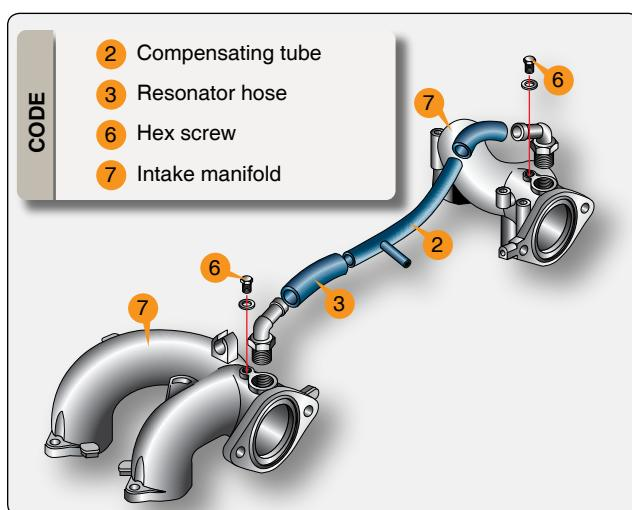
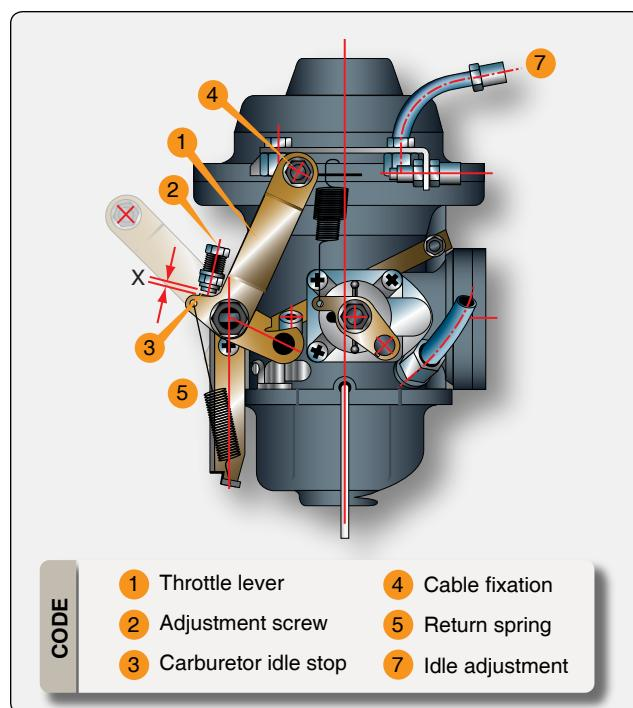
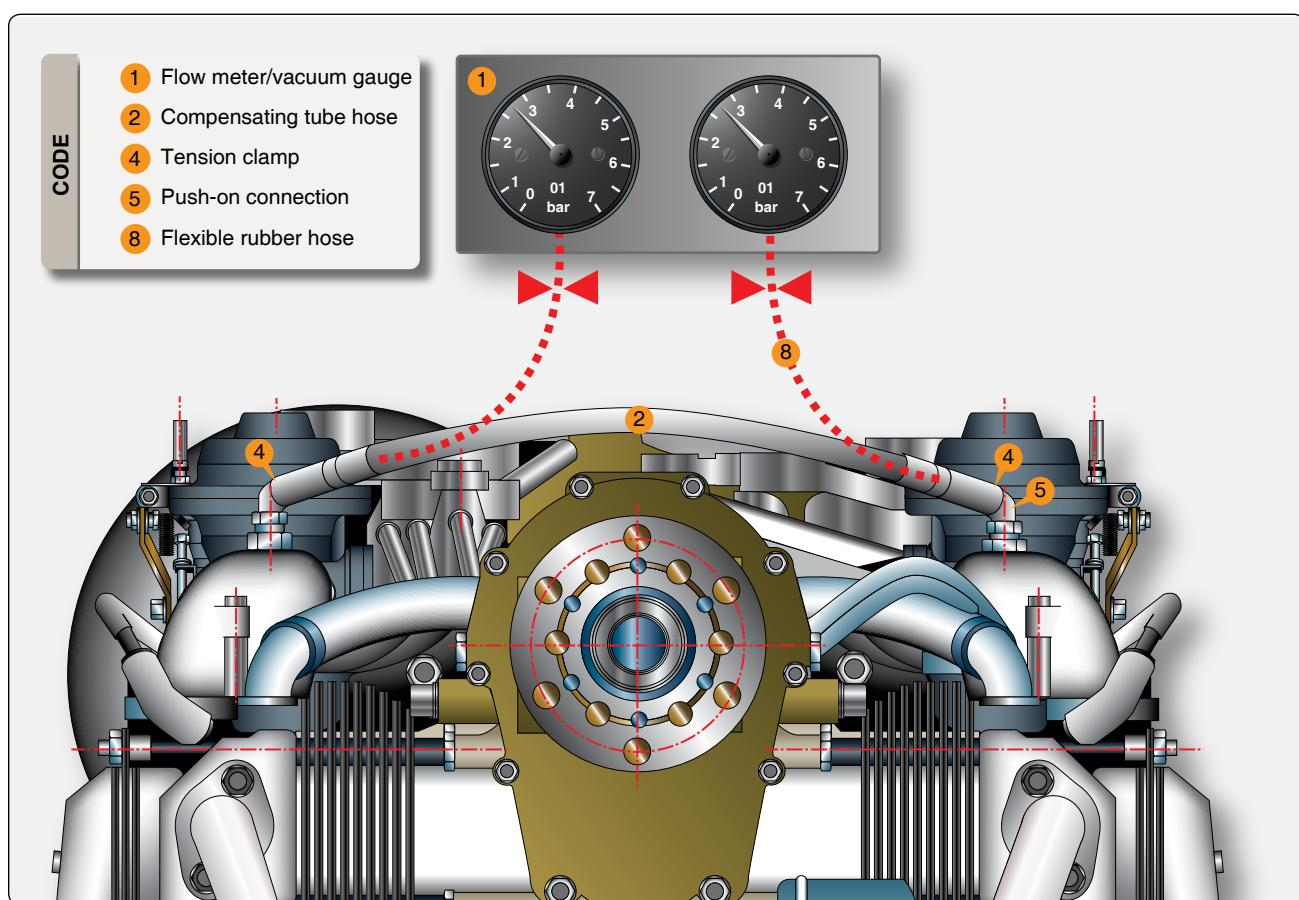

Figure 11-26. Resonator hose and compensating tube.
Figure 11-27. Carburetor throttle lever.
Figure 11-29. Gauges attached to the engine.
For smooth idling, synchronization of the throttle valves is necessary. When synchronizing, slacken both Bowden cables, and detach the resonator hose (3) of the compensating tube (2) to separate the two air intake systems. [Figure 11-26] In this condition, no significant difference in the engine running should be noticeable. If adjustment is needed for synchronous basic throttle adjustments (mechanical synchronization), proceed as follows. [Figures 11-27 and 11-28]
There are two possible methods to connect test equipment. One option is to remove the hex screw (6) M6 x 6 from the intake manifold (7) and connect the vacuum gauge(s). [Figure 11-26 and Figure 11-29] Remove the compensating tube (2) with attached hoses (12) (connection between intake manifolds) and plug the connections in the intake manifolds. The other hook up option is to remove the compensating tube hose (2) from the push-on connection (5) after removing the tension clamp (4). Using the push-on connection (5), install a flexible rubber hose (8) leading to the vacuum gauge (1), using the balance tube (4). Install the other flexible rubber hose leading to the vacuum gauge. [Figure 11-29] Before proceeding any further, secure the aircraft on the ground
Select full power and check that both pressure gauges are registering the same readings. If the same reading is not made on both gauges, shut down the engine and check that carburetor actuation has full travel and that the chokes are in the full off-position. If necessary, fit/modify the carburetor actuation as required to achieve full power on both carburetors. Once full power has been established on both carburetors, retard the throttle and observe the pressure gauge settings. The pressure gauges should show the same reading for both carburetors. Discrepancies must be compensated for by adjusting the off idle adjustment (7). [Figure 11-27] The carburetor with the lower indication must be advanced to match the higher one. This is done by shutting down the engine and loosening the locknut on the Bowden cable and screwing the off idle adjustment in by $\frac{1}{2}$ turn, then tightening the locknut and retesting the engine. Final idle speed adjustment may be required by resetting the idle speed adjustment screws (2). [Figure 11-27] Equal adjustment must be made on both carburetors.
If satisfactory idle speed adjustment cannot be achieved, inspection of the idle jet or additional pneumatic synchronization is necessary. Always carry out idle speed adjustment when the engine is warm. Basic adjustment of the idle speed is first accomplished by using the idle speed adjustment screw (2) of the throttle valve. [Figure 11-27]
Optimizing the engine run is necessary only if not accomplished at carburetor synchronization. Close the idle mixture screw (6) by turning clockwise to screw in fully and, then, opening again by $1\frac{1}{2}$ turns counterclockwise. [Figures 11-27 and 11-28] Starting from this basic adjustment, the idle mixture screw (6) is turned until the highest motor speed is reached. The optimum setting is the middle between the two positions, at which an rpm drop is noticed. Readjustment of the idle speed is carried out using the idle speed adjustment screw (2) and, if necessary, by slightly turning the idle mixture screw again. Turning the idle mixture control screw in a clockwise direction results in a leaner mixture and turning counterclockwise in a richer mixture.